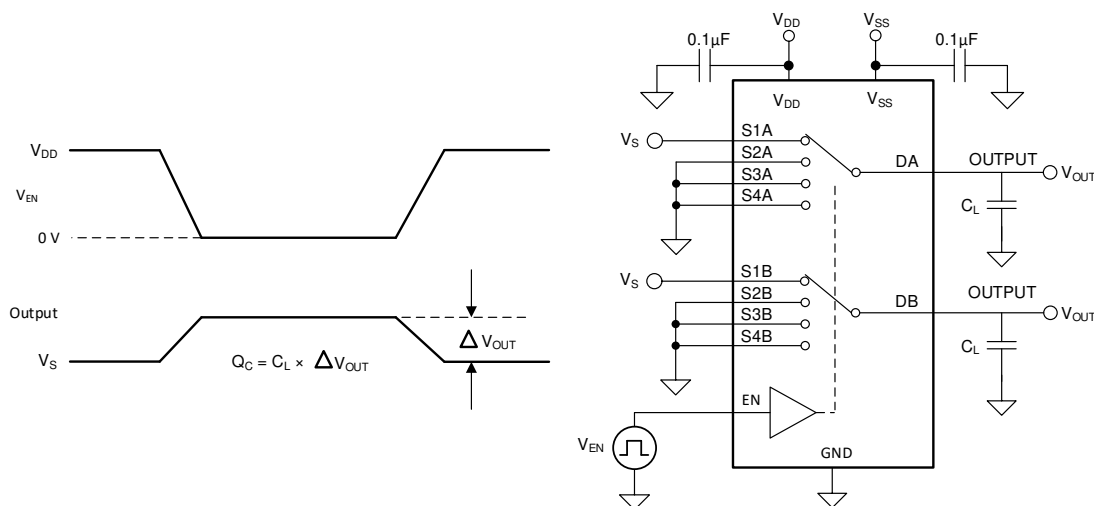

Figure 6-7. Charge-Injection Measurement Setup
The TMUX1109 has a transmission-gate topology. Any mismatch in capacitance between the NMOS and PMOS transistors results in a charge injected into the drain or source during the falling or rising edge of the gate signal. The amount of charge injected into the source or drain of the device is known as charge injection, and is denoted by the symbol Q_C . Figure 6-7 shows the setup used to measure charge injection from source (Sx) to drain (D).